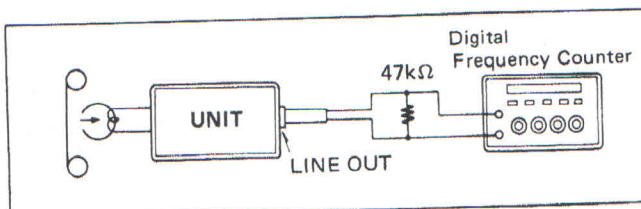

Fig. 3-9
1. Set the test equipments as shown in Fig. 3-9.